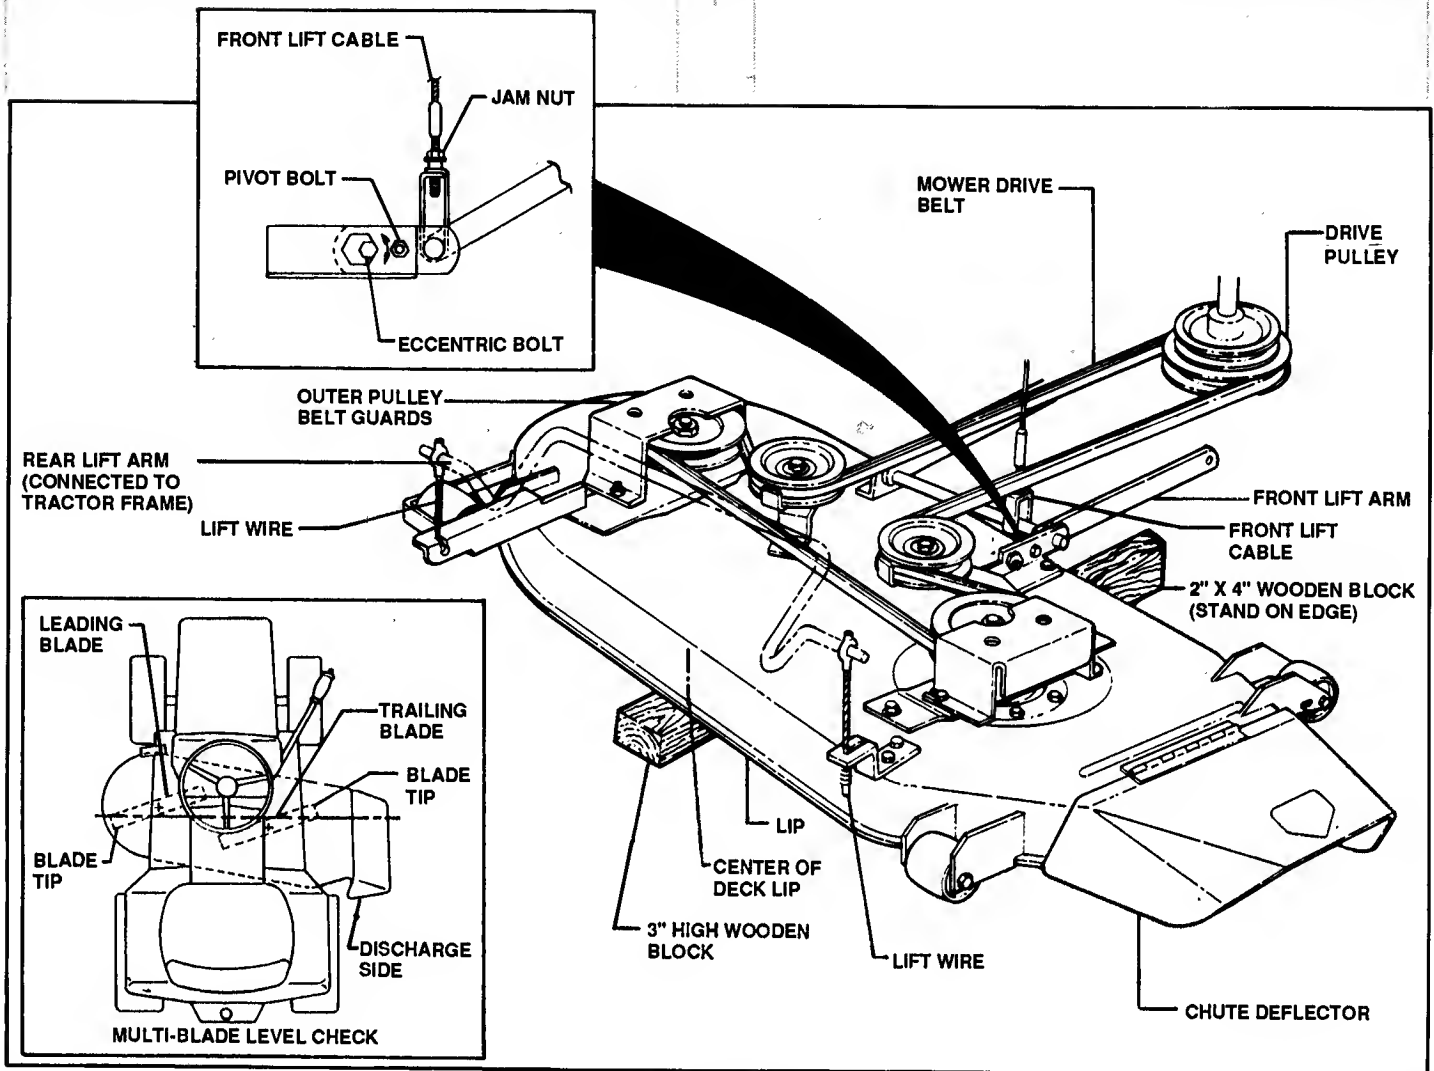

FIGURE 29
4. Place a 2 x 4 block on edge under the front lip of the deck in the exact center between the front lift arms. See Figure 29 on Page 13.